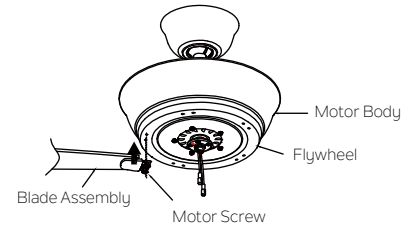

Fig. 20
Step 2. Fasten blade assembly to the holes located on the bottom of the flywheel. Tighten the two "pre- installed" motor screws in the blade arm. Repeat steps for the remaining blades assemblies.(Fig. 20)